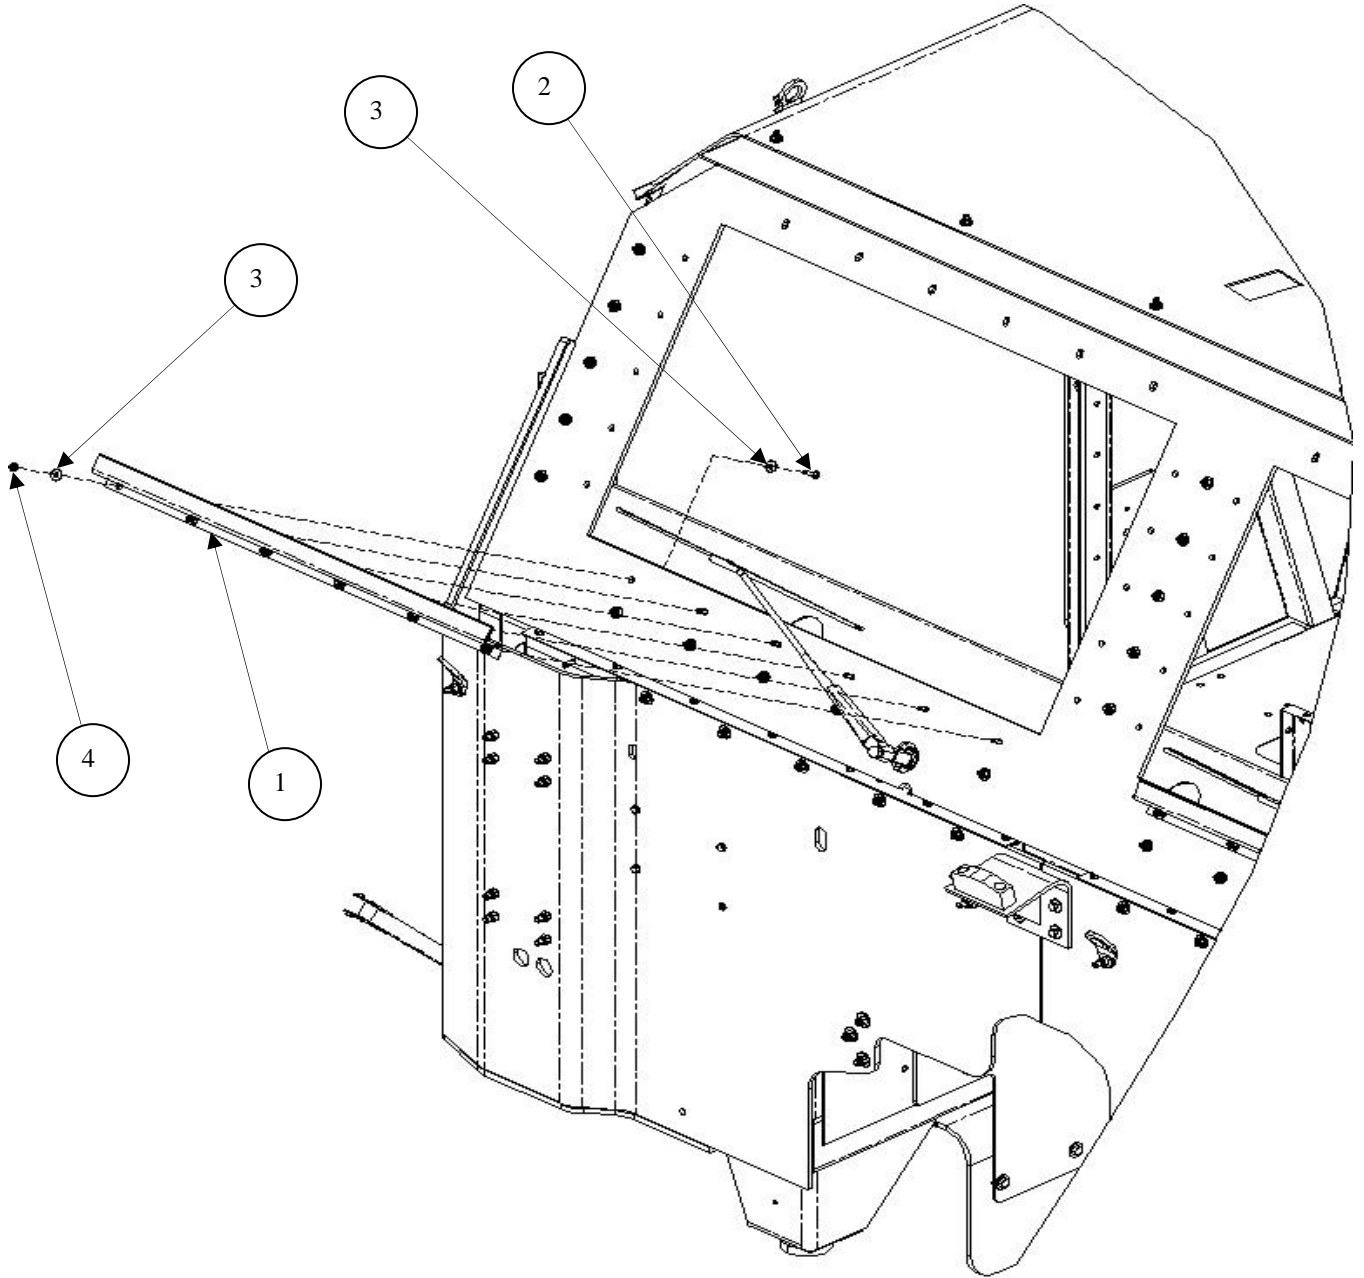

Figure 3-82. Windshield Mount Z-Channel Installation.
1. Install windshield mount Z-channel as follows (see Figure 3-82):
- a. Install two windshield mount Z-channels (1) at bottom of each (left and right) windshield cutout in windshield armor panel and secure each with six bolts (2), 12 flat washers (3), and six locknuts (4). Leave locknuts loose.